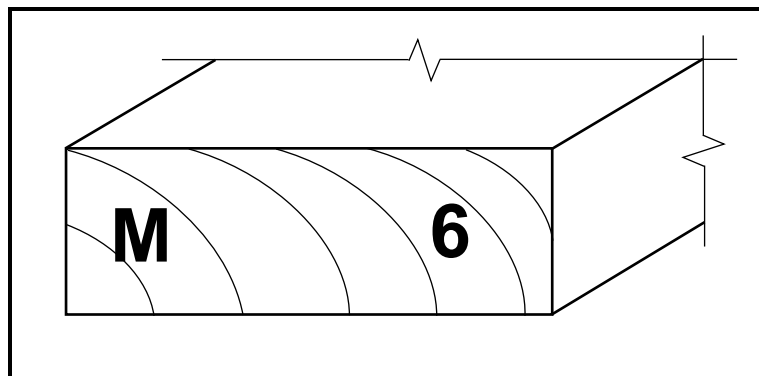

FIGURE 4.3
- 4.3 FIGURE 4.3 below shows a piece of graded timber that will be used for skirtings.